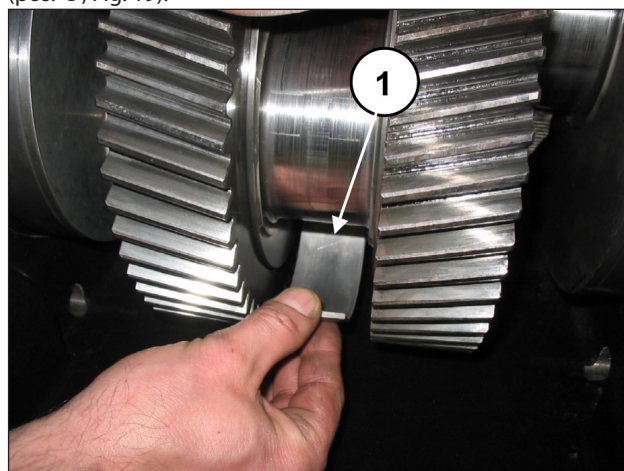

Fig. 19
Remove the three upper half-bearings of the half supports (pos. ①, Fig. 19).